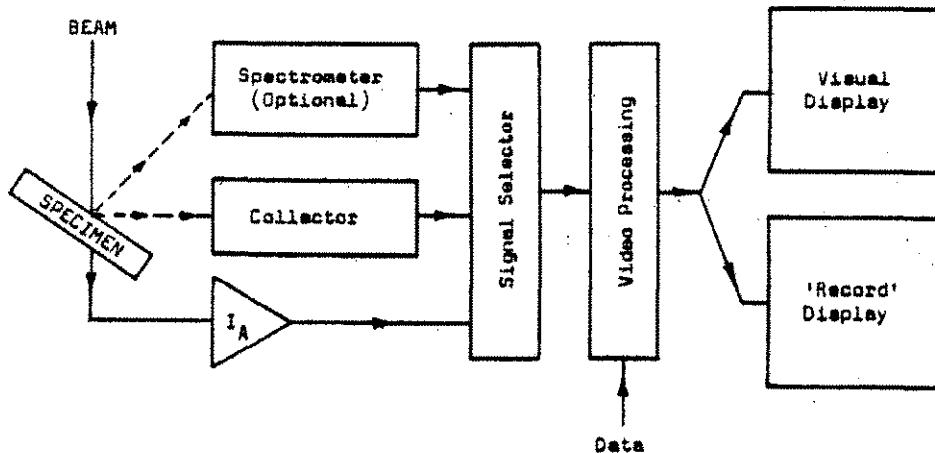

Figure 7.6 Typical Use of Basic Video System
- Figure 7.6 Electron Collection
7.2.4 Electron collection and video processing. (fig 7.6)